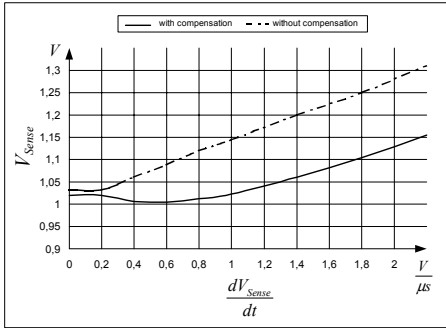

Figure 13 Overcurrent Shutdown
E.g. $I_{peak} = 0.5A$ with $R_{Sense} = 2$. Without Propagation Delay Compensation the current sense threshold is set to a static voltage level $V_{csth}=1V$. A current ramp of $dI/dt = 0.4A/\mu s$, that means $dV_{Sense}/dt = 0.8V/\mu s$, and a propagation delay time of i.e. $t_{Propagation\ Delay} = 180ns$ leads then to an I_{peak} overshoot of 12%. By means of propagation delay compensation the overshoot is only about 2% (see Figure 13).